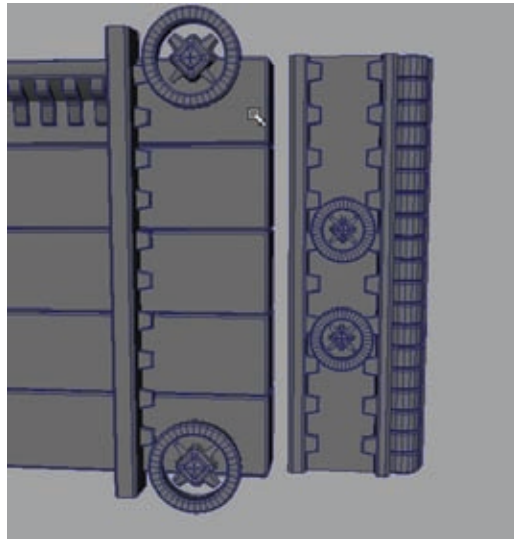

Figure 5.16
17. Select the circular corner details of the earlier module and duplicate them to use with the column module. Scale it down to fit and place two of them in the center of the large forward-facing side like in Figure 5.16.